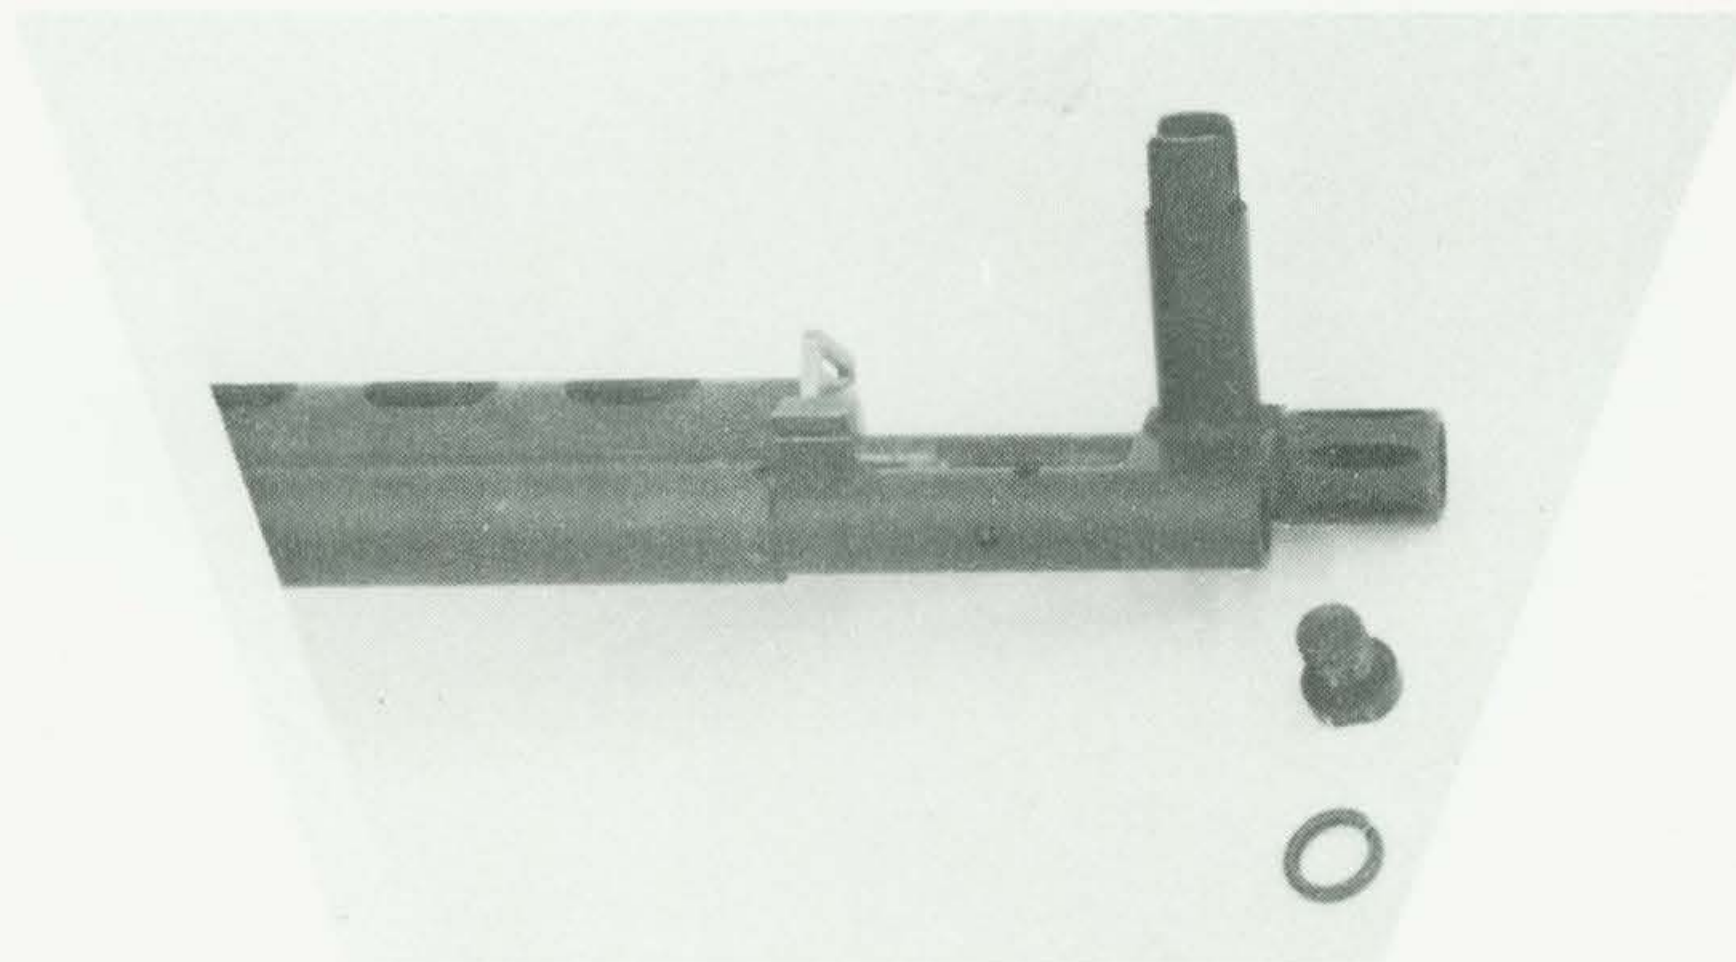

FIGURE 18. GAS CYLINDER PLUG REMOVED
- a) Unscrew and remove gas cylinder plug and washer using 5/8" open-end wrench (Figure 18).